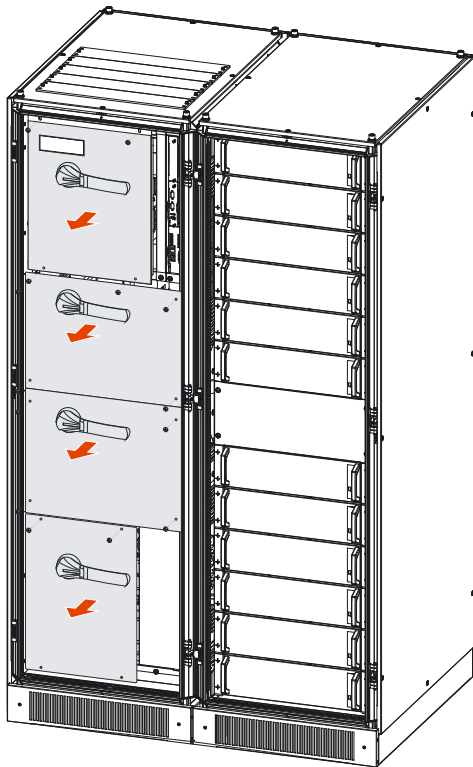

Figure3-26 Dismantle the wiring cover plate of distribution cabinet
- Step 2 Loose the fasten bolts of each cover plate, screw the handle of each switch, and then dismantle the wiring cover plate, as shown in Figure3-26.